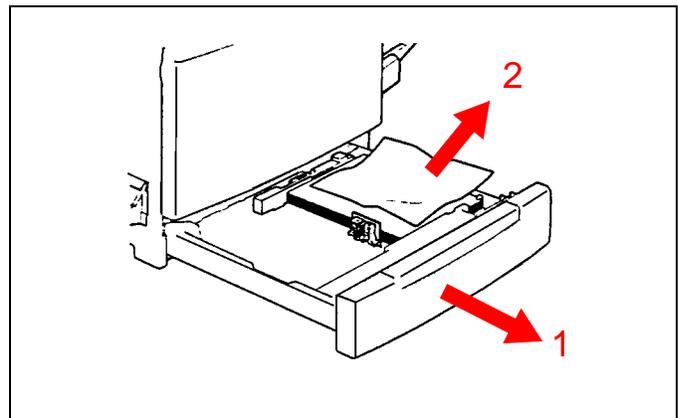

Figure 8
1. See Figure 8. Slowly pull the paper tray out until it stops.